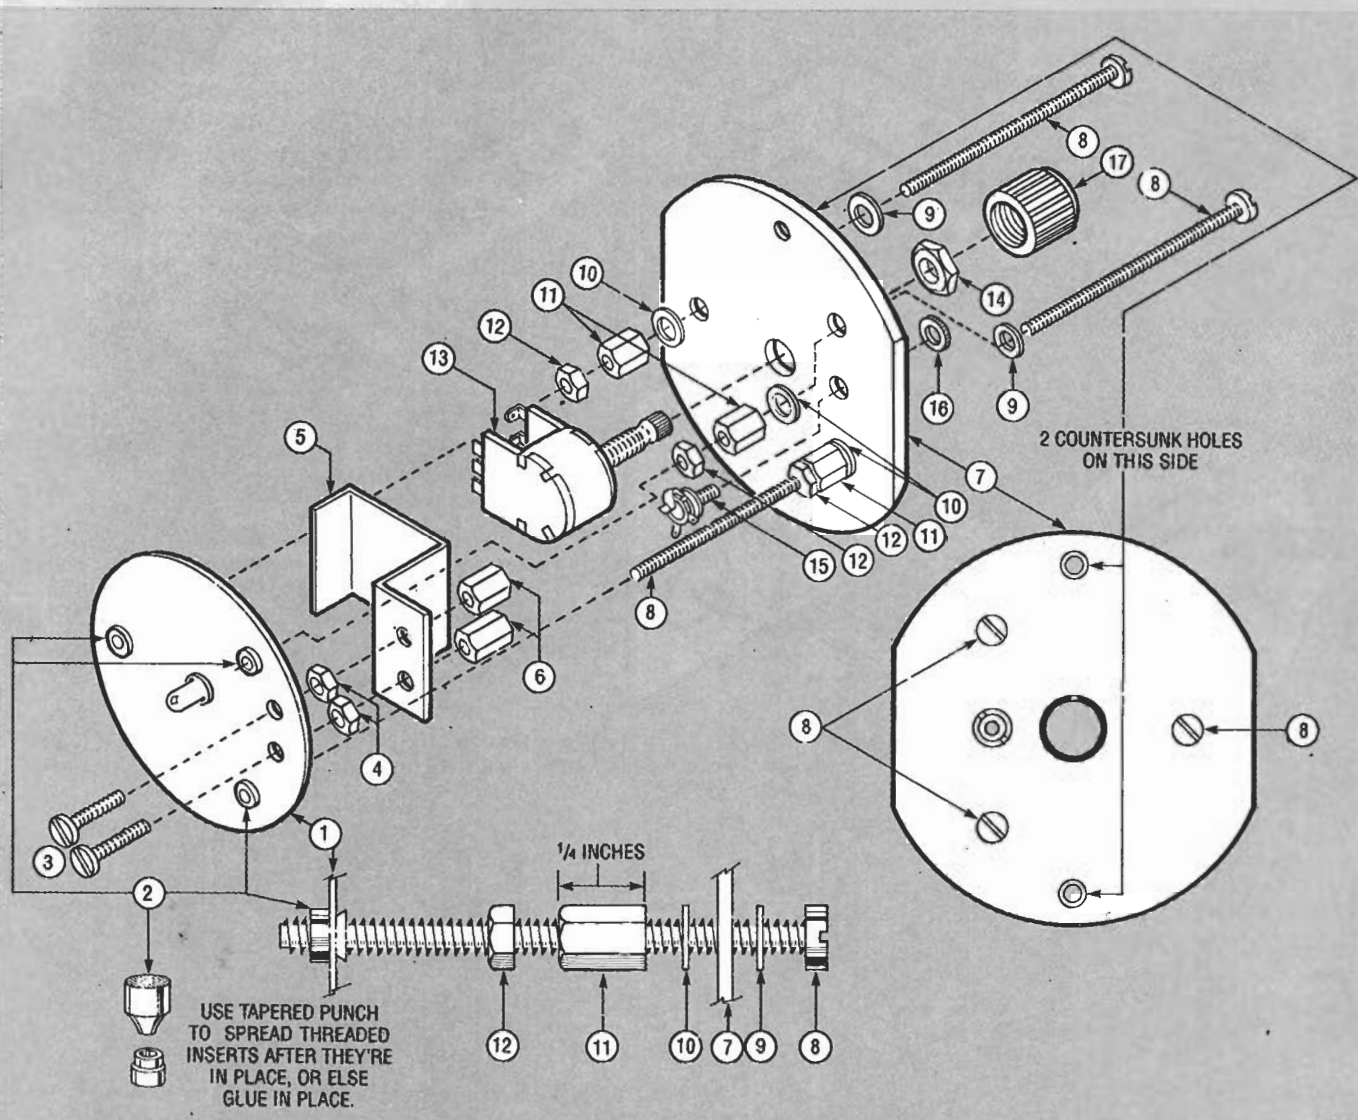

FIG. 1—THE TRANSMITTER is assembled as shown. Look over the assembly instructions carefully before starting the project.
Let's start our mechanical assembly with the transmitter, as shown in Fig. 1. Take the completed PC board (1) and install the three nut-set-like threaded inserts (2). This is normally done by first inserting the narrow end of an insert through each of the three holes on the edge of the PC board. (The narrow end should now be protruding on the solder side of the board.) By resting the wide end of the insert on a *solid* surface, the narrow end is spread apart, by giving it a whack with a tapered punch. Otherwise, you can use some *Krazy Glue* or RTV silicone to secure them to the board.
Next, take two $\frac{1}{8}$ -inch-long screws (3), insert them in the proper holes, and secure them with a nut (4). Then place the battery holder (5) over the ends of those screws as shown in Fig. 1, and secure the battery holder with two $\frac{1}{8}$ -inch-long threaded spacers (6). (The battery is held down by tightening those spacers with the battery in place. Just be sure that the battery has
PARTS LIST FOR THE TRANSMITTER (FIG. 1)